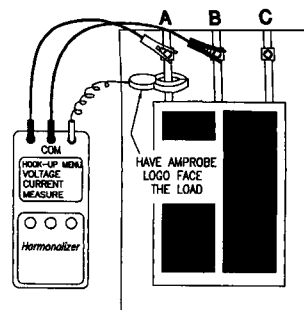

Figure 1
- c. Attach the other ('hot') voltage lead to the 'A' lug. (See figure 1)